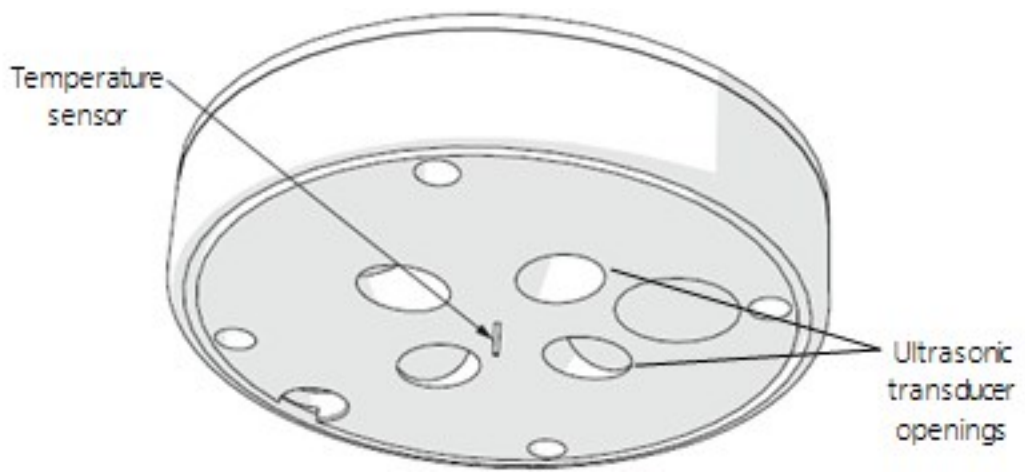

FIGURE 9-1. Temperature sensor and ultrasonic transducer openings
1. Remove cobwebs, leaves, bird droppings, wasp nests, or other debris from the temperature sensor (FIGURE 9-1 (p. 31)), ultrasonic transducer openings (FIGURE 9-1 (p. 31)), rain gage funnel (FIGURE 9-2 (p. 31)), pyranometer (FIGURE 9-2 (p. 31)), and sintered glass reflection plate (FIGURE 9-3 (p. 32)).
Gently clean the sonic transducers and do not allow water to enter the ultrasonic sensors (FIGURE 9-1 (p. 31)). Water may corrode the metal parts inside the sensors and ruin them.